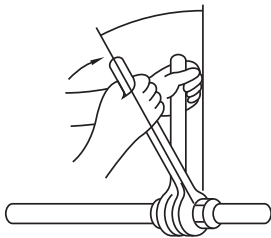

Fig. 4-8
- Apply a thin coat of refrigeration oil on the seat surface of pipe. (Fig. 4-8)